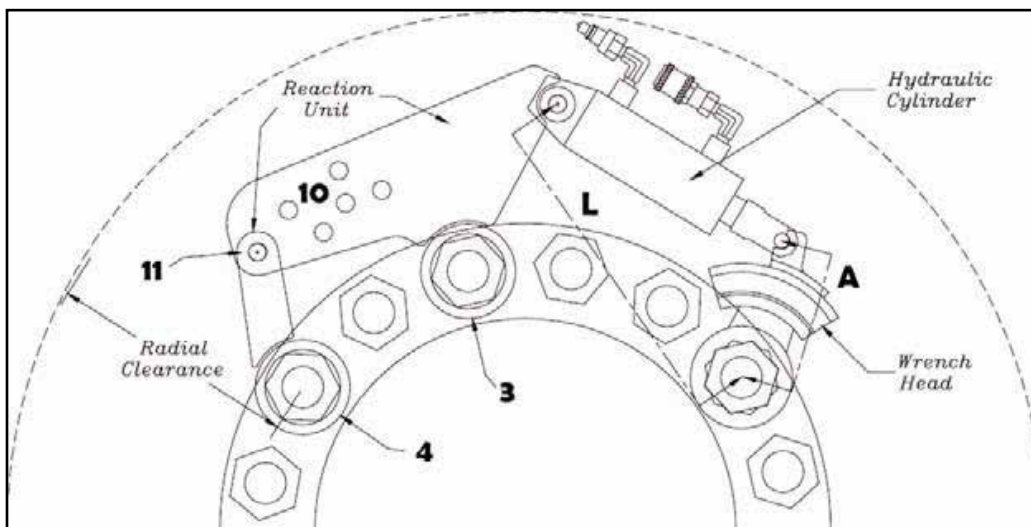

Figure 7
5. Measure the distance (A) of the wrench arm. This distance is 12" on a Series 325-12 (Figure 7).